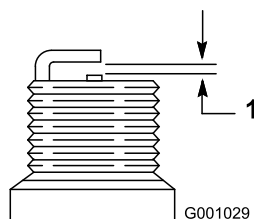

Figure 46
7. Set the gap between the electrodes on a new spark plug at 0.030 inch (0.76 mm) (Figure 46).